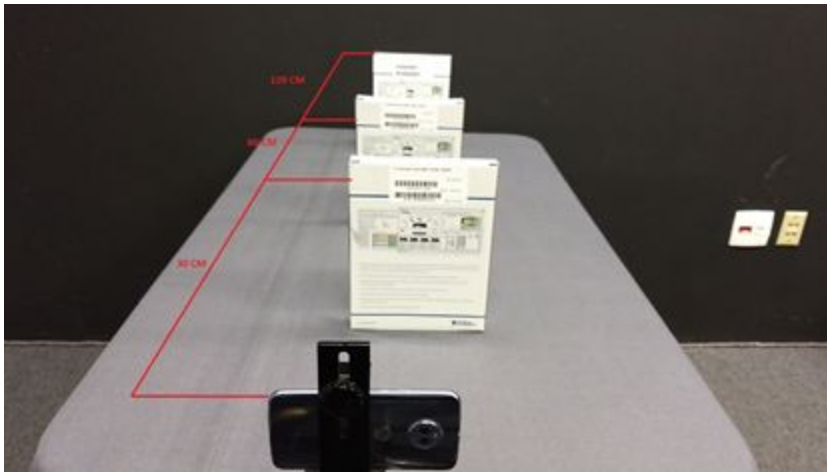

Figure 1.0 – Rear Housing Assembly Rev Marking
- ii. Inspect the Rev Marking on the Rear Housing Assembly (P/N: 5S58C09xxx & SS58C19xxx). If marking is Rev A, then replace Rear Housing Assembly (P/N: 5S58C09xxx & SS58C19xxx) with Rev B or later. Reference **Figure 1.0** above.